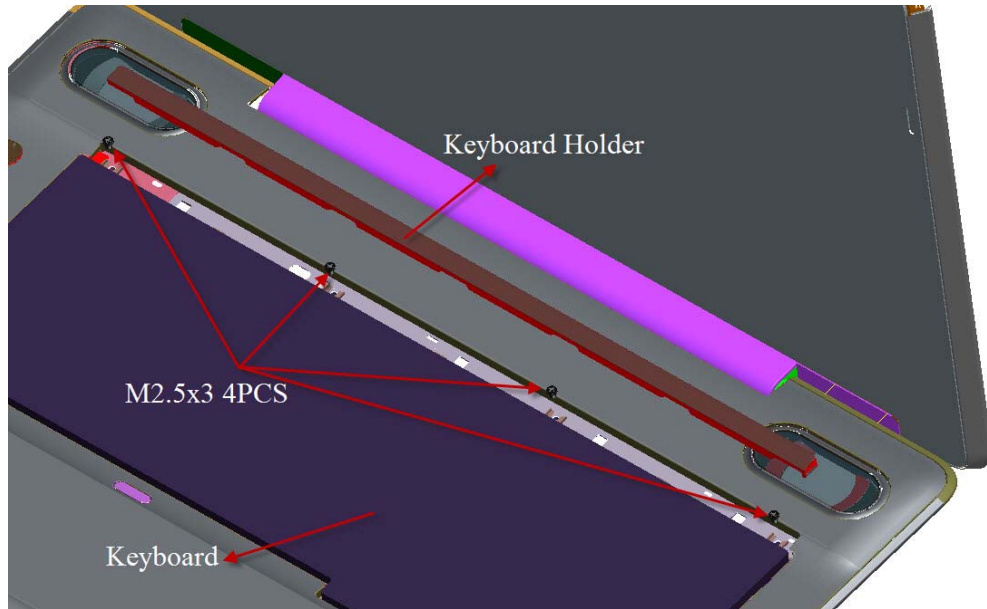

Figure 4-8-1 Remove screws for KB Holder
The following describes the procedure for removing the keyboard (See Figure 4-8-1).
6. Disassemble **KBD Holder** and **Keyboard** screw (See Figure 4-8-1)